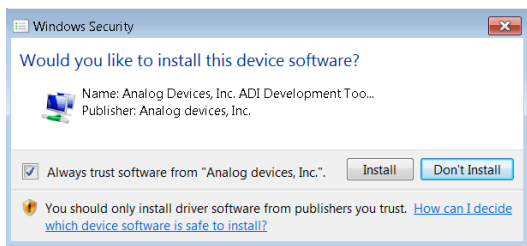
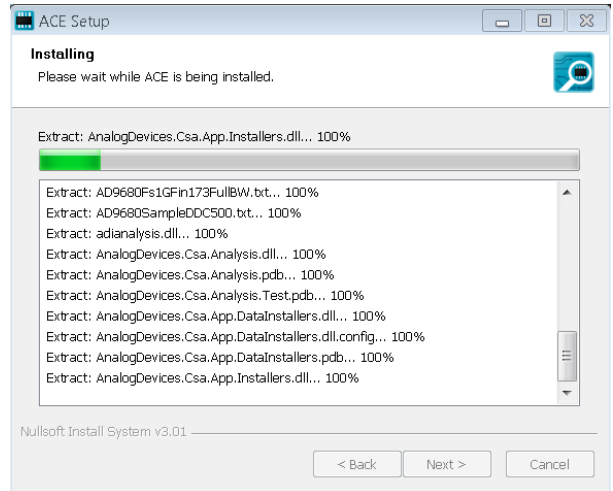

Figure 8. Windows Security Window
Figure 9. Installation in Progress
- The **Windows Security** window opens (see Figure 8). Click **Install**. Figure 9 shows the installation in progress. No action is required.